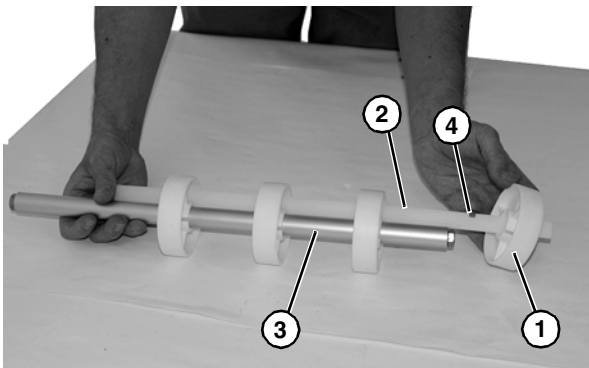

Figure 69
5. Remove rollers (Figure 69, item 1) and alignment bar (Figure 69, item 2) from shaft (Figure 69, item 3). Inspect and replace if worn.
6. Reinstall rollers and alignment bar, with each roller lining up with cutout area (Figure 69, item 4) on alignment bar.